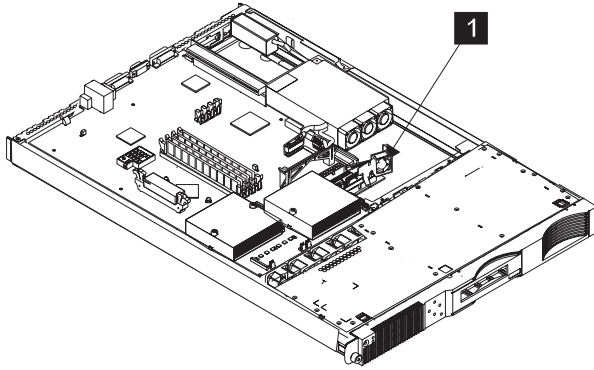

Figure 170. Removing a SAN Volume Controller 2145-4F2 disk drive fan
5. Remove the entire fan assembly **1**, as shown in Figure 170, by sliding the right-hand side of the disk drive fan forward. Then, pull the assembly away from the clip.